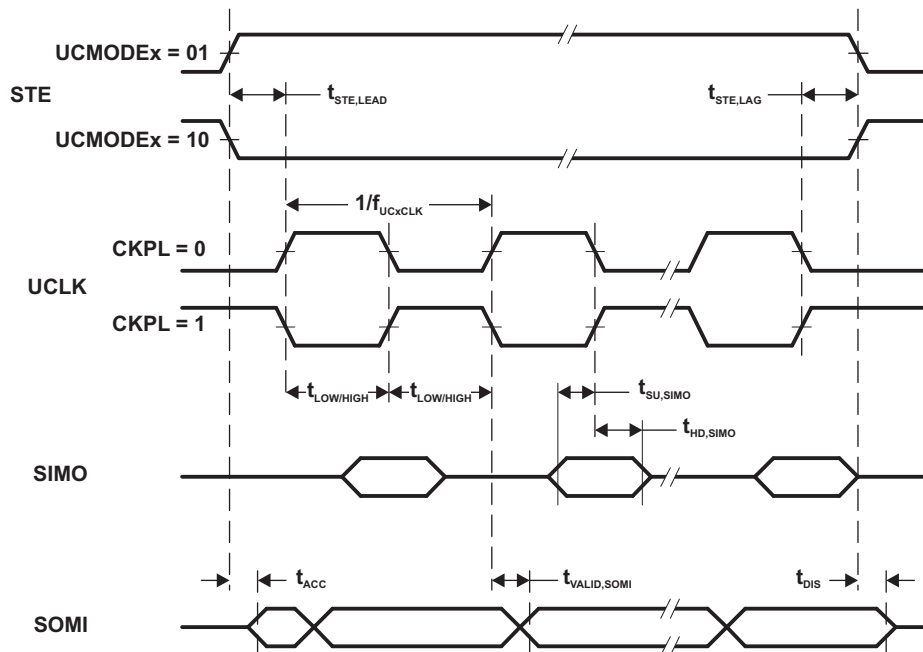
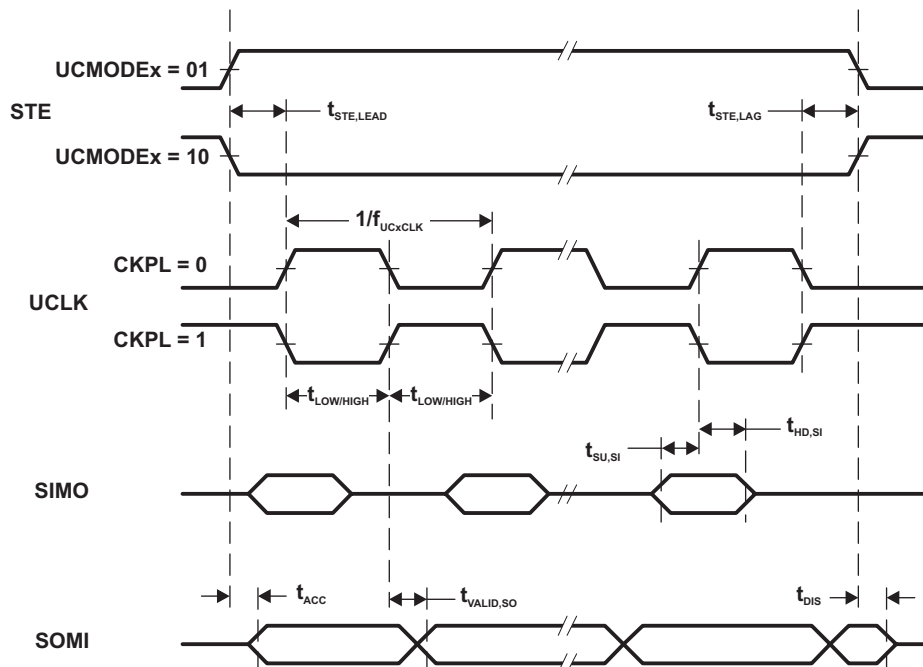

Figure 5-15. SPI Slave Mode, CKPH = 0
Figure 5-16. SPI Slave Mode, CKPH = 1
- (2) Specifies the time to drive the next valid data to the SIMO output after the output changing UCLK clock edge. See the timing diagrams in Figure 5-15 and Figure 5-16.
- (3) Specifies how long data on the SIMO output is valid after the output changing UCLK clock edge. Negative values indicate that the data on the SIMO output can become invalid before the output changing clock edge observed on UCLK. See the timing diagrams in Figure 5-15 and Figure 5-16.
- (2) Specifies the time to drive the next valid data to the SOMI output after the output changing UCLK clock edge. Refer to the timing diagrams in Figure 5-15 and Figure 5-16.
- (3) Specifies how long data on the SOMI output is valid after the output changing UCLK clock edge. Refer to the timing diagrams in Figure 5-15 and Figure 5-16.